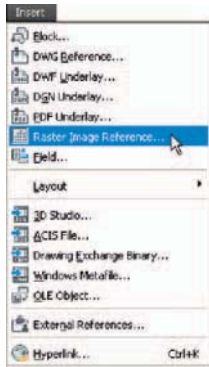
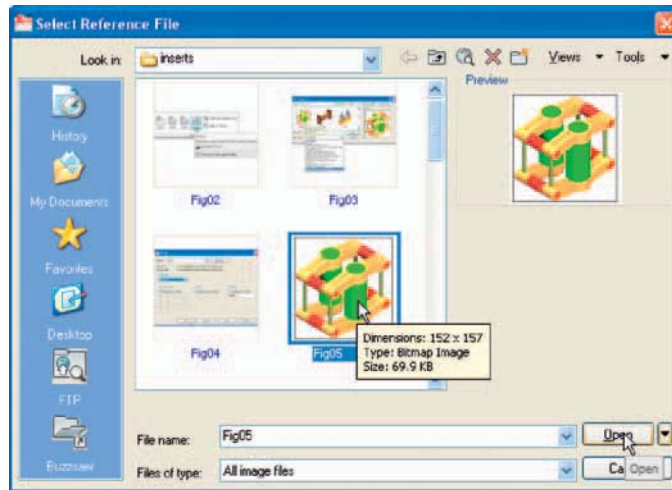

Fig. 10.8 Selecting Raster Image Reference... from the Insert drop-down menu
Fig. 10.9 The Select Reference File dialog
1. Click **Raster Image Reference...** from the **Insert** drop-down menu (Fig. 10.8). The **Select Reference File** dialog appears (Fig. 10.9). Click the file name of the image to be inserted, in this example **Fig05** (a bitmap *.bmp). A preview of the bitmap appears in the **Preview** area of the dialog.